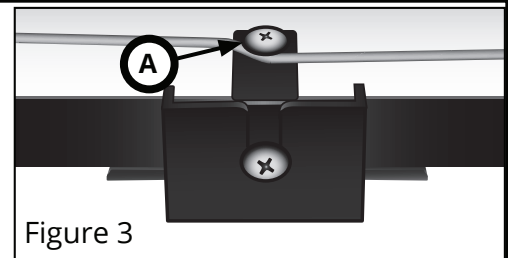

Figure 3
- 2** Remove the small wire capture screw from the bottom of the bar (A). (see figure 3)